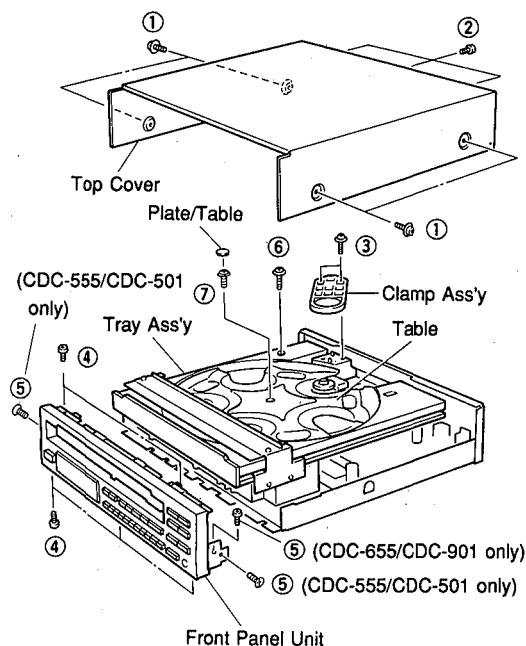

Fig. 1
- ① P. C. B. MAIN (2)
- ② CLAMP ASS'Y
- ③ CM-100 UNIT
- ④ P. C. B. MAIN (1)
- ⑤ TRAY ASS'Y
- ⑥ P. C. B. MAIN (8)...CDC-655/CDC-901 ONLY
- Remove 4 screws (①) and also 3 screws (②) as shown in Fig. 1.
- Remove 2 screws (③) as shown in Fig. 1.
- Remove 5 screws (④) and also 1 or 2 screws (⑤) as shown in Fig. 1.
- Take off the Front Panel Unit slowly as shown in Fig. 1.
- Remove 1 screw (⑥) as shown in Fig. 1.
- Remove the Plate/Table as shown in Fig. 1.
- Remove 1 screw (⑦) and then take off the Table as shown in Fig. 1.